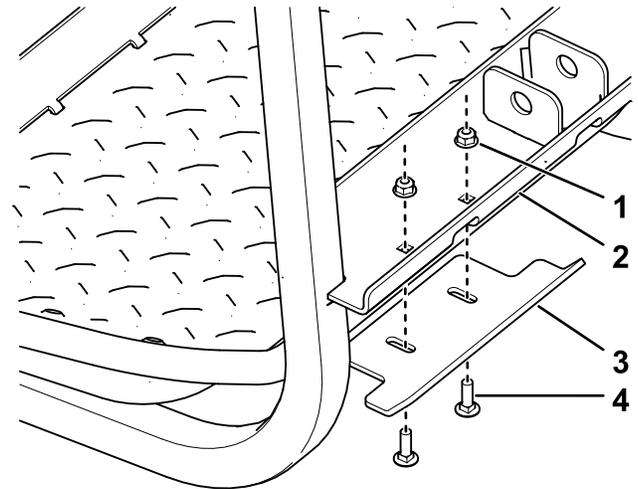

Figure 6
- Install the lift bracket to the rear frame assembly as shown in Figure 6.